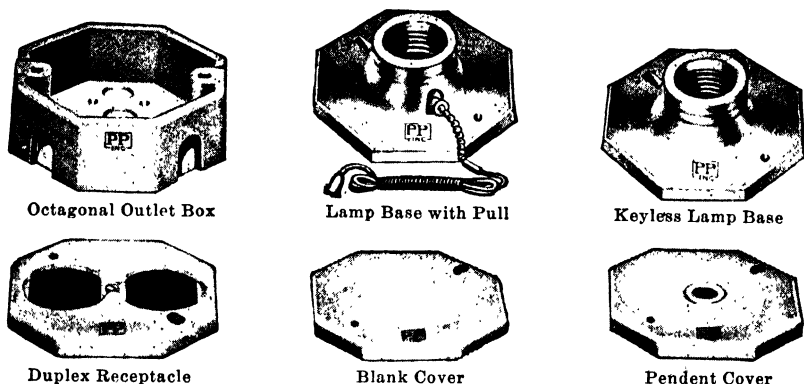

Fig. 49. Porcelain Outlet Box and Covers
**Outlet Boxes.** The standard metal outlet and switch boxes may be used with knob and tube wiring. There has recently been developed a line of porcelain octagonal outlet boxes and covers, Fig. 49, having dimensions corresponding to metal boxes. There is also